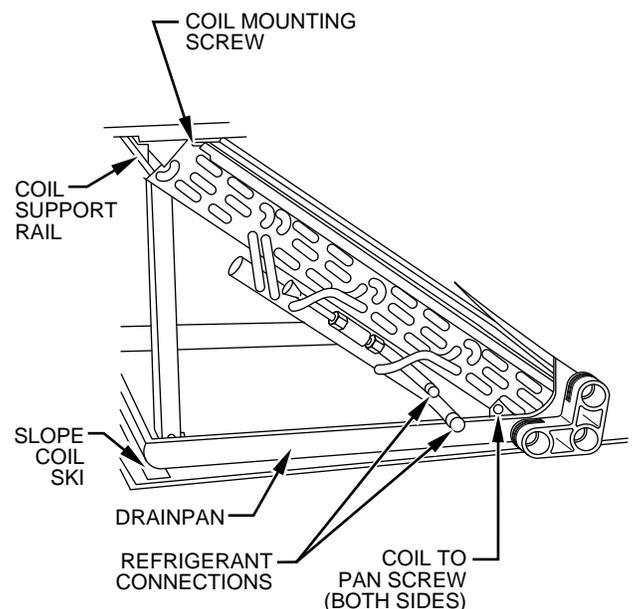

Fig. 32—Slope Coil Component Location
8. Place assembly on a flat surface. Remove 2 screws securing coil support columns to pan. (See Fig. 32.)
12. Remove coil top seal. (See Fig. 32.)